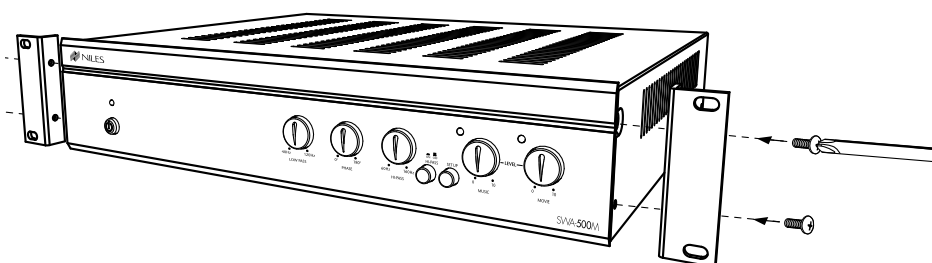

Figure 4. Install the included rack ears as shown using a #2 Phillips screwdriver
1. Before installing the rack ears, remove the screws attached to the sides of the unit. Install the included rack ears as shown in Figure 4 using a #2 Phillips screwdriver. Do not use any other screws or damage to the amplifier may result.